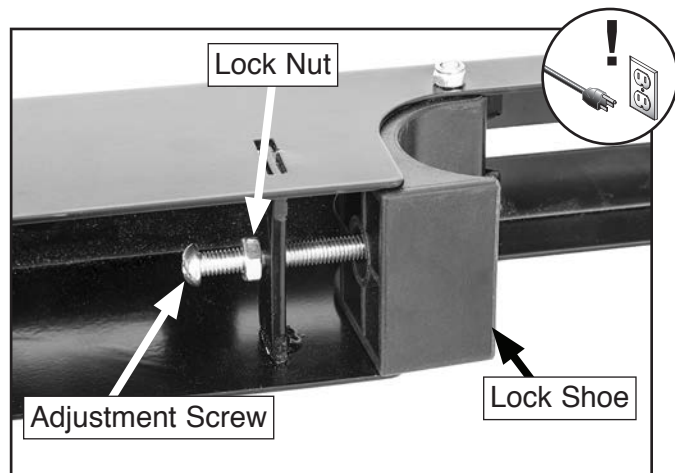

Figure 24. Clamping rail adjustment.
3. Loosen lock nut shown in **Figure 24** and turn adjusting screw to increase or decrease clamping of rail.